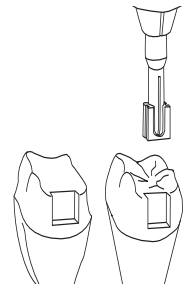

Fig. 3
5. Place the paralleling mandrel into the parallelometer. Slide the female onto the paralleling mandrel. If the wax pattern is full contour, cut a box into the pattern on the appropriate surface. This can easily be done by positioning the female beside the wax pattern and scribing a line into the wax with a sharp instrument. Use the female as a guide. Remove enough wax from the box shape to position the attachment as deep as necessary to maintain proper tooth contour and as low as possible (Fig. 3).